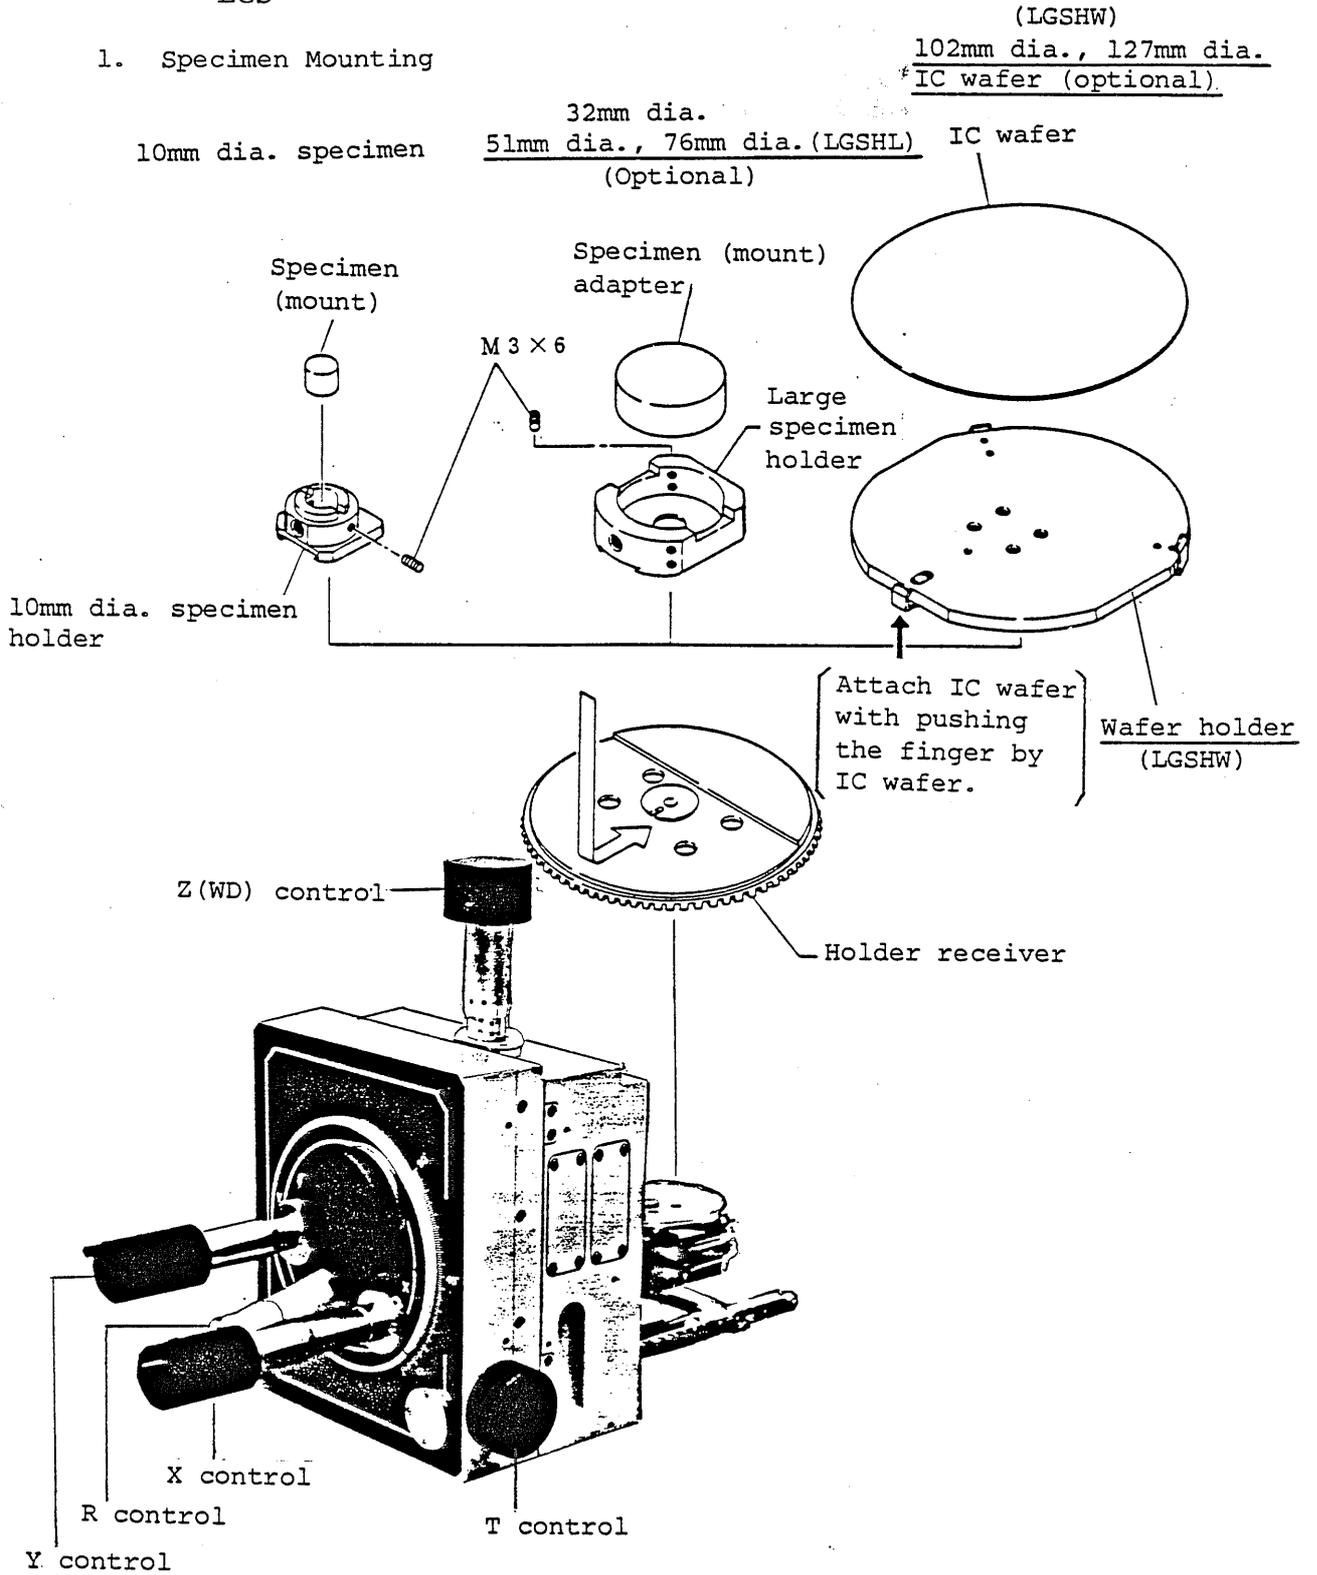

Fig. 3.3-1 Specimen Mounting (LGS)
4. Choose suitable specimen holders (refer to Fig. 3.3-1 and 3.3-6).